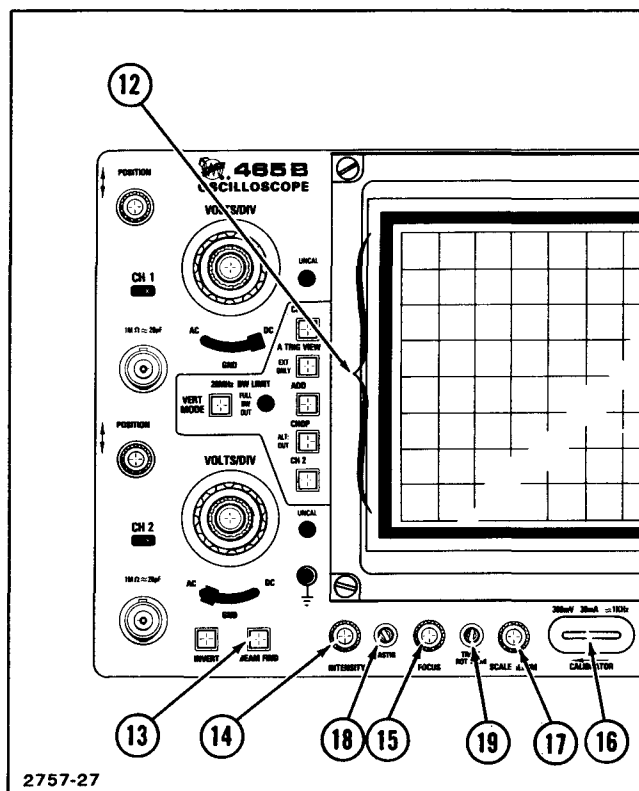

Figure 2-4. Display controls and calibrator.
Refer to Figure 2-4 for location of items 12 through 19.
- ⑫ **Internal Graticule**—Eliminates parallax. Risettime and amplitude measurement points are indicated at the left edge of the graticule.
- ⑬ **BEAM FIND Switch**—Compresses the display to within the graticule area and provides a visible viewing intensity to aid in locating off-screen displays.
- ⑭ **INTENSITY Control**—Determines overall brightness of the A Sweep and B Sweep crt displays. Interacts with B INTENSITY control on B Sweep crt displays.
- ⑮ **FOCUS Control**—Adjusts for optimum display definition.
- ①⑥ **CALIBRATOR Loop**—A combination 30-milliamp current loop and 0.3-volt square-wave voltage output (approximately 1 kilohertz) that permits the operator to compensate voltage probes and to check oscilloscope vertical operation. It is not intended to verify precise time-base calibration.
- ①⑦ **SCALE ILLUM Control**—Adjusts graticule illumination.
- ①⑧ **ASTIG Control**—Screwdriver control used in conjunction with the FOCUS control to obtain a well-defined display. It does not require readjustment during normal use of the instrument.
- ①⑨ **TRACE ROTATION Control**—Screwdriver control used to align trace with the horizontal graticule lines.